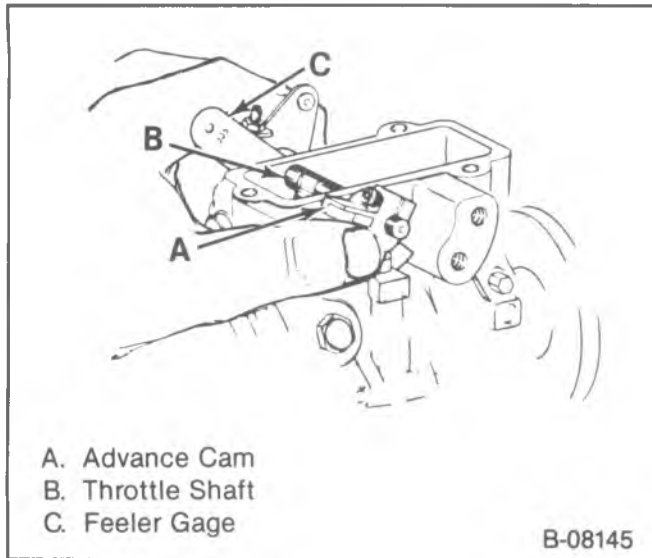

Figure 23—Setting Advance Cam to Housing Clearance
6. A 0.005-inch feeler gage between the white washer on the throttle shaft and the pump housing (figure 23).